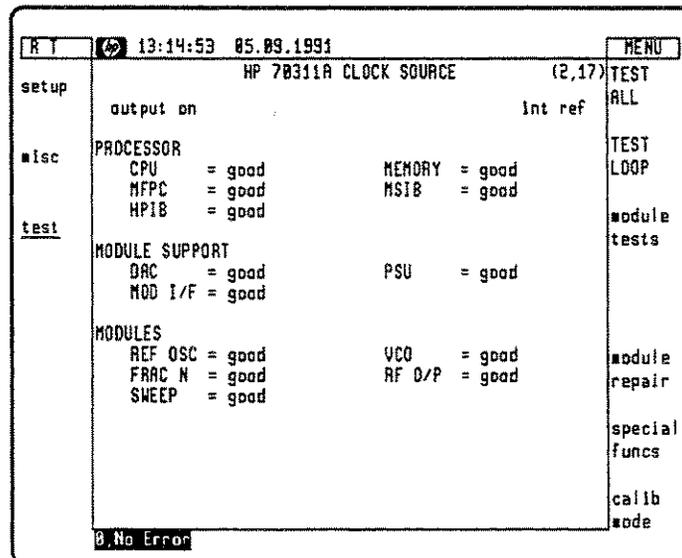

Figure 6-3. Module Tests Display
10. Press the **Test** softkey on the lefthand menu followed by the **test ALL** softkey on the righthand menu. The clock source now executes a series of module tests, and at completion gives a display similar to Figure 6-3.